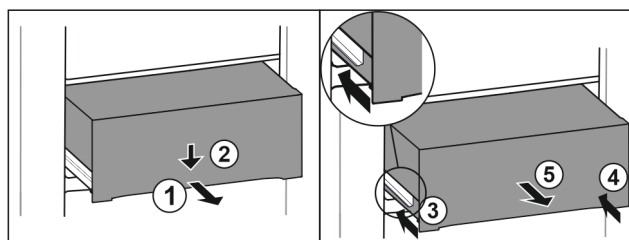

Fig. 88
- Pull out drawer half-way. Fig. 88 (1)
- Push the drawer down at the front. Fig. 88 (2)
- Push the left rail in by about 2 cm. Fig. 88 (3)
- Push the right rail in by about 2 cm. Fig. 88 (4)
- Remove drawer to the front. Fig. 88 (5)